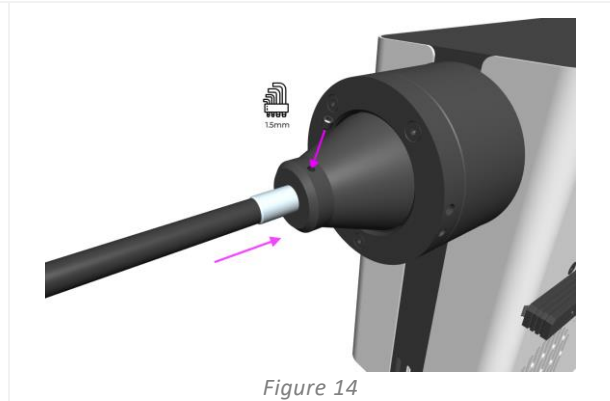

Figure 14
2. While holding the liquid light guide securely in place, use the 1.5 mm Hex Key to gently fasten retention grub screw found at the output of the Light Source (Figure 14).